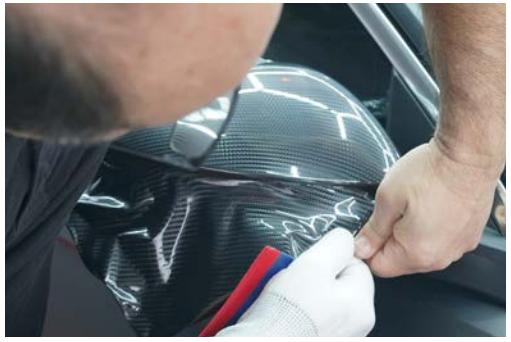

Figure 17
- › Spread out and eliminate any folds by gently lifting the film and slightly pulling it towards the edges of the film. (FIG. 17)